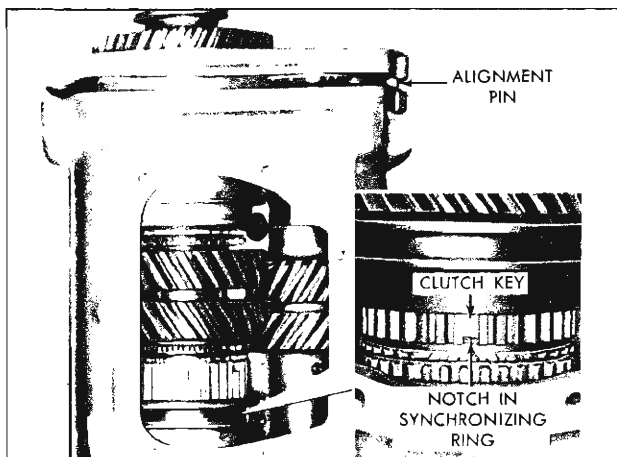

Fig. 23M—Installing Mainshaft Assembly
12. Lower the mainshaft assembly into the case making certain the notches on the fourth speed synchronizing ring correspond to the keys in the clutch assembly (fig. 23M).